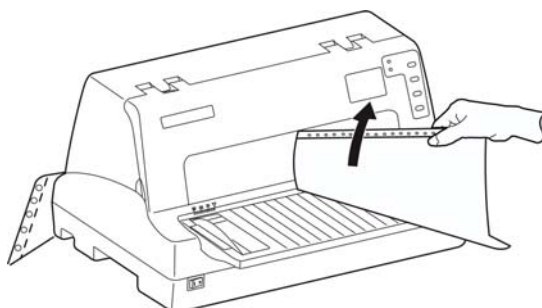

Figure 3-10 Tear tractor paper
5. Adjust the right tractor to affirm the installation is correct. Insure the hole of the tractor paper suit extrude of the tractor as shown in Figure 3-10.